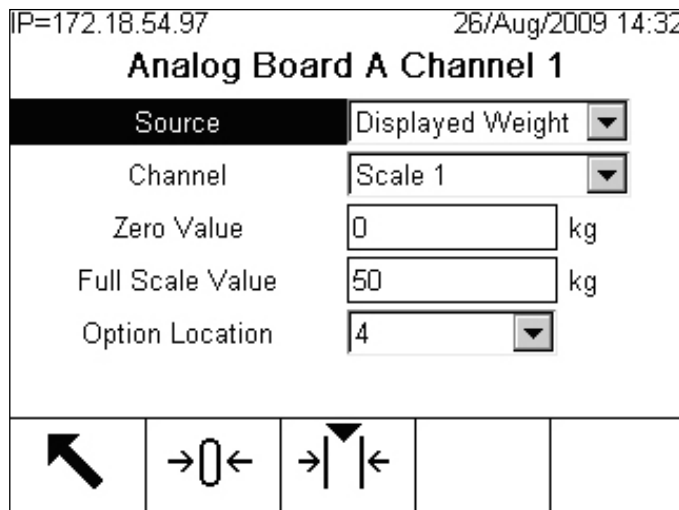

Figure 3-136: Analog Output 1 Screen
3. Select the **Analog Output** branch and the respective Analog Output channel to configure. The Analog Output screen will appear, as shown in Figure 3-136.